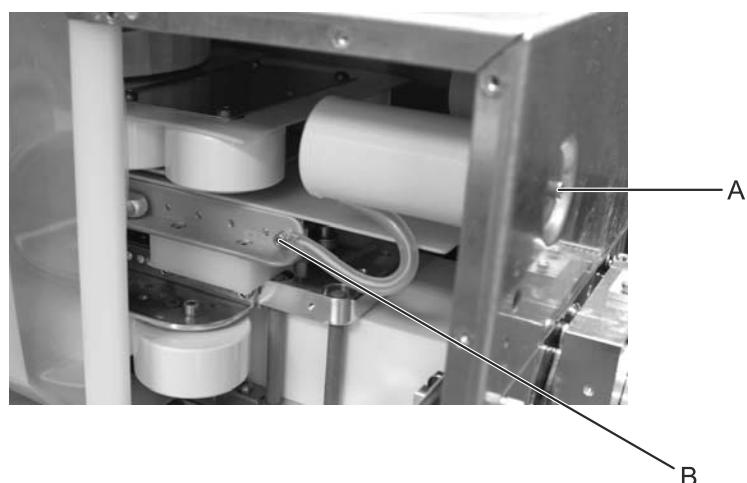

Figure 71: Disconnecting and removing the HV discharge coil
3. Use the 3 mm allen key to disconnect the HV discharge coil from the capacitor bank (see Figure 71).